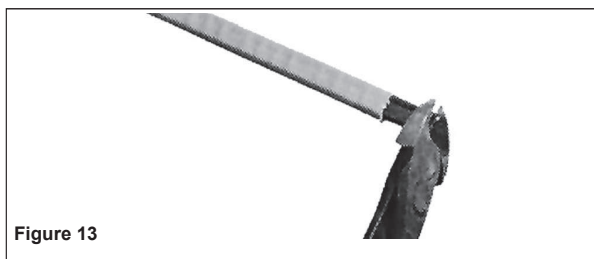

Figure 13
1. Using standard electrical cutters, make a perpendicular cut across the cable 1/8" from the end. Make sure braid is not in contact with bus-wires (Figure 13).